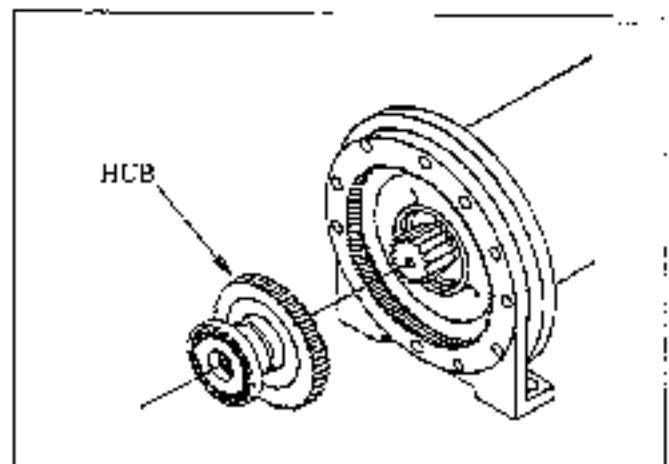

Figure 9
- (8) Remove the outer race and hub with bearings. See Figure 9.